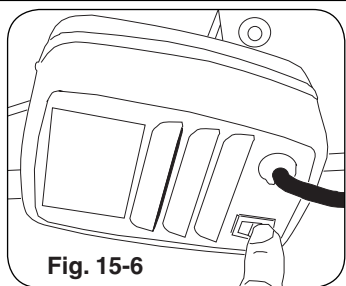

Fig. 15-6
12. Plug-in the rotisserie motor and press the rocker switch to start (Fig. 15-6).